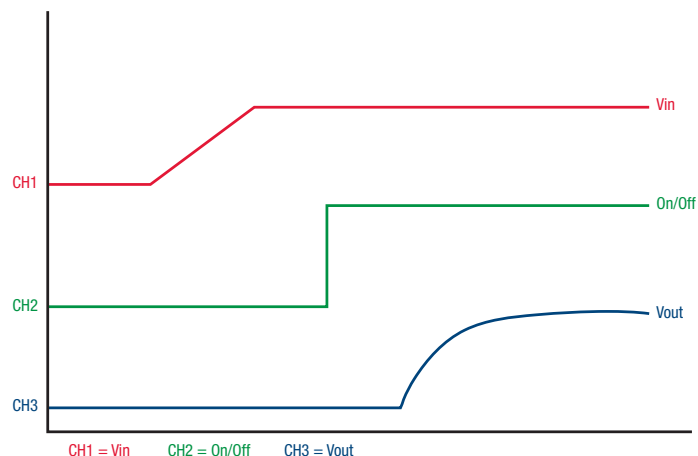

Figure 3. Typical Turn On for Positive Logic Modules
- When Vin has reached steady state, apply control signal to the all modules. Figure 3 illustrates the turn on process for positive logic modules.